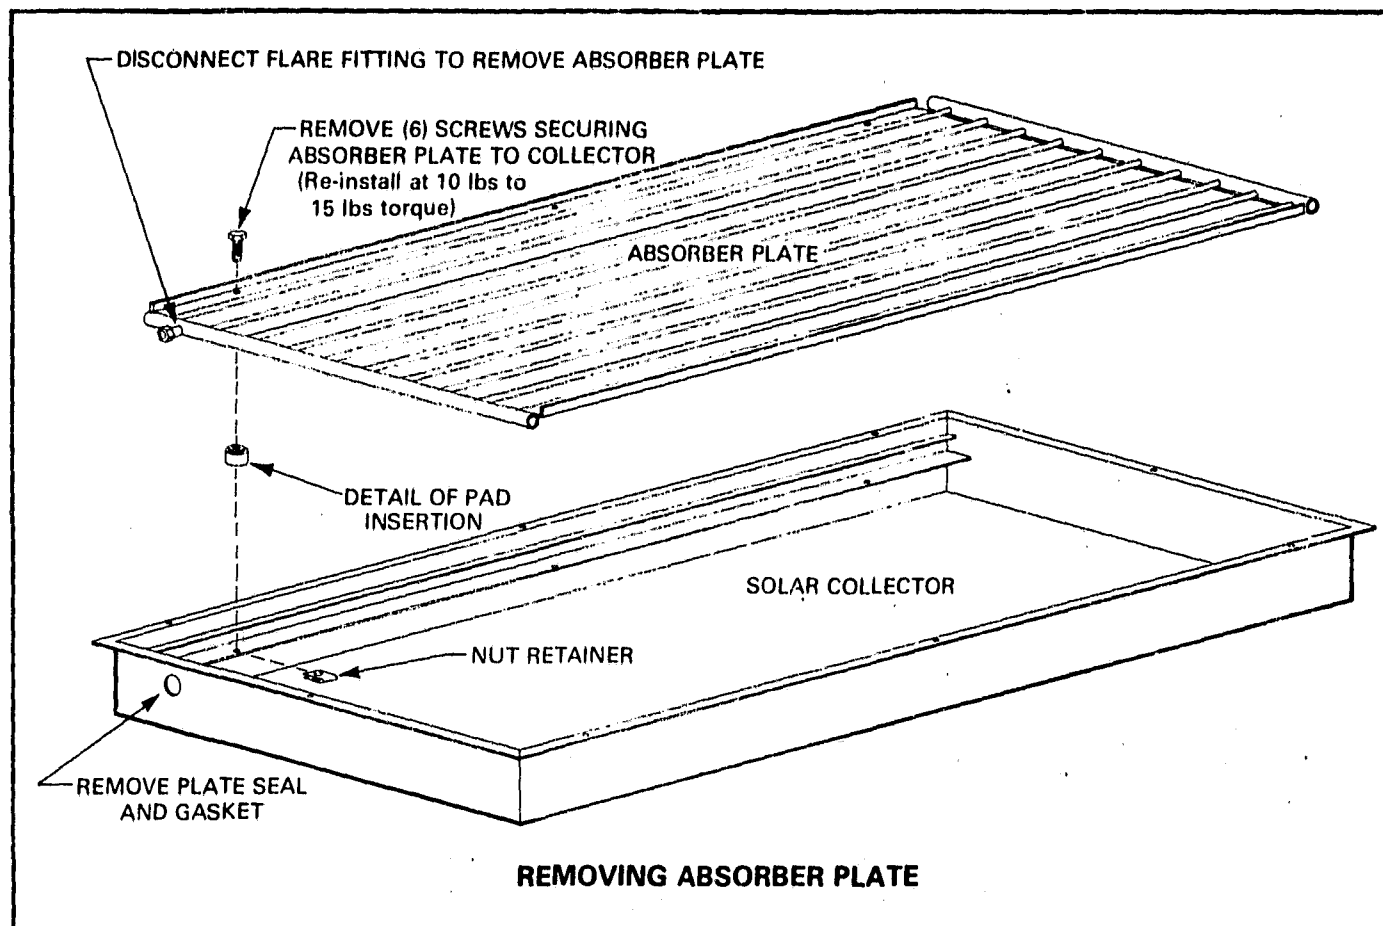

FIGURE 21
- 4 - To replace an absorber plate refer to following sequence and Figure 21.